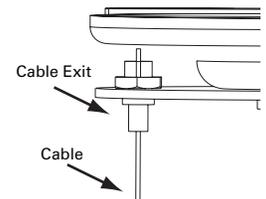

FIG. 3
10. Push cable end into cable gripper, out through the top, and turn out as arrow indicates before spun cover. **FIG. 3**
11. Repeat items 9 & 10 with remaining free cable.